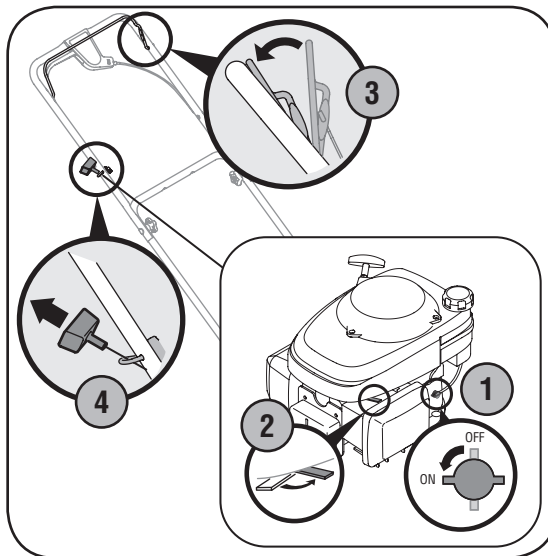

Figure 4-3
2. Move the choke lever all the way backward into the choke position. See Figure 4-3.
3. Standing behind the mower, squeeze the blade control against upper handle as shown in Figure 4-3. The choke will now begin to slowly return to the off choke position after activating the blade control. Therefore, quickly move onto step four below.